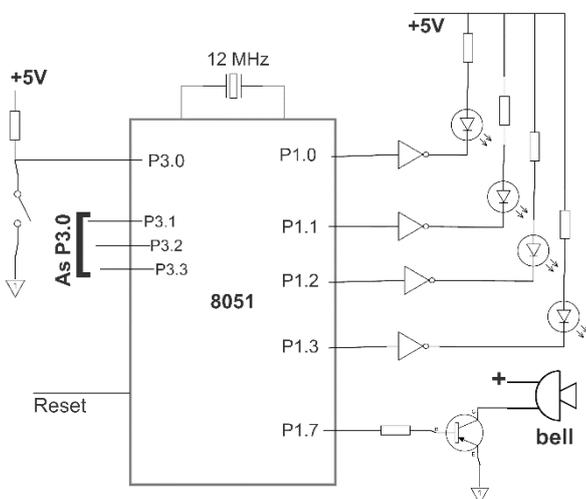

Figure 2B
- 2B.** A simple burglar alarm system has 4 zone inputs connected to pins P3.0 to P3.3 of 8051. If any one of these inputs is activated (low) a bell will sound for 5 minutes and the corresponding zone LED (P1.0 to P1.3 respectively), will be activated. Design an 8051-assembly language program to implement the required functionality for this system shown in **Figure 2B**. **(04)**